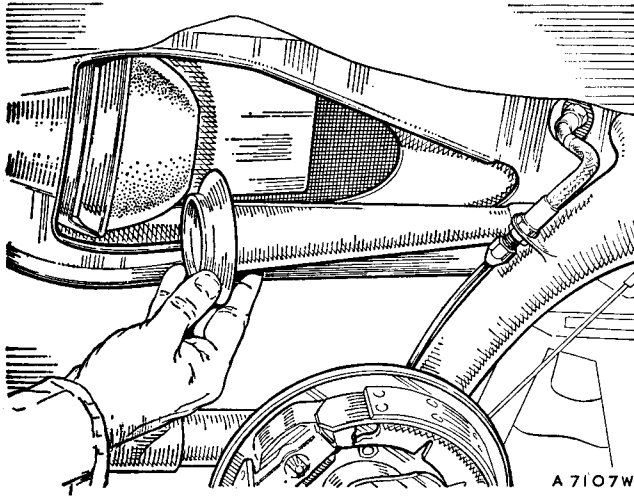

Fig. H.2
- (1) Release the rear damper(s) as in Section L.1.
- (2) Raise the car and support it under the sub-frame side-member.
- (3) Remove the road wheel.
- (4) Disconnect the brake hose from the bracket on the radius arm.
- (5) Prise out the strut assembly (Fig. H.2). The nylon cup may remain in the boss on the radius arm and, unless damaged, it can be removed with the fingers.
- (6) Disconnect the hand brake cable from the lever on the backplate, prise the guide tube from the clip on the arm and pull the tube away from the arm. On later models remove the nut from the cable sector pivot and withdraw the selector and pivot.
- (7) Remove the end finisher from the sill panel.
- (8) Unscrew the nut and remove the washer from the radius arm pivot shaft and lift the arm away from the car.